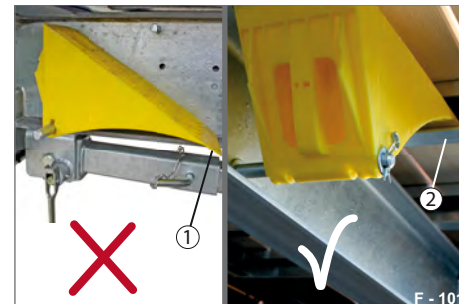

Fig. 91 Insert wheel chock
- ▶ Place the tip (Fig. 91/1) of the upper chock onto the chassis strut (Fig. 91/2). The chock is correctly positioned.